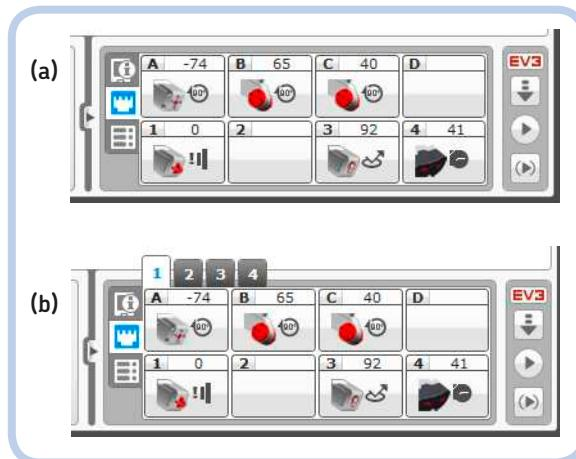

Figure 5-6: The Port View tab of the Hardware Page without (a) and with (b) Daisy-Chain mode enabled.
* **Port View tab** (Figure 5-6): When the EV3 Brick is connected, use this tab to check the readings of all the sensors and motors attached to it in real time. This feature is really useful when you need to set thresholds in your programs for Wait blocks or when you need to measure how much a motor shaft should rotate. When you connect a sensor or a motor to an input or an output port on the EV3 Brick, the EV3 Brick recognizes the type of device automatically, thanks to the Auto-ID feature. You can change the mode of the sensors (for example, the Color, Reflected Light Intensity, and Ambient Light modes for the Color Sensor) by clicking the related icons. You can also reset the Motor Rotation sensor values by clicking the port names. When Daisy-Chain mode is enabled (see “Project Properties” on page 75), the Port View tab shows the sensors of all the daisy-chained EV3 Bricks [Figure 5-6(b)].